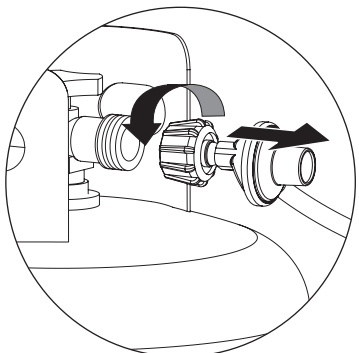

Figure 4
2. Disconnect gas line to tank by turning knob counterclockwise until it is loose. (Figure 4)